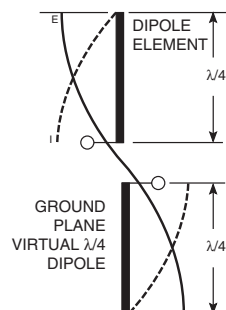

Figure 31: Dipole Antenna
4. In many antenna designs, particularly $\frac{1}{4}$ -wave whips, the ground plane acts as a counterpoise, forming, in essence, a $\frac{1}{2}$ -wave dipole (Figure 31). For this reason, adequate ground plane area is essential. The ground plane can be a metal case or ground-fill areas on a circuit board. Ideally, it should have a surface area less than or equal to the overall length of the $\frac{1}{4}$ -wave radiating element. This is often not practical due to size and configuration constraints. In these instances, a designer must make the best use of the area available to create as much ground